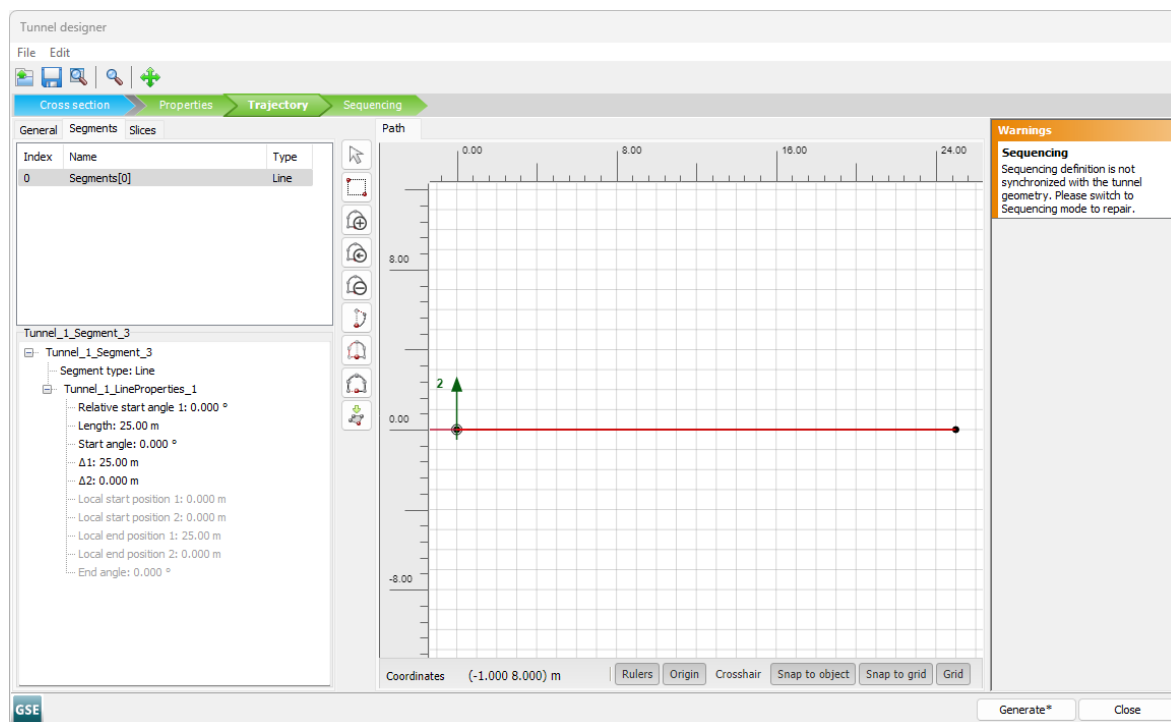

Figure 69: Trajectory tabsheet on Tunnel designer-Adding a trajectory segment
3. In the **Selection explorer** set the length to 25 (see Figure 69 (on page 96)).